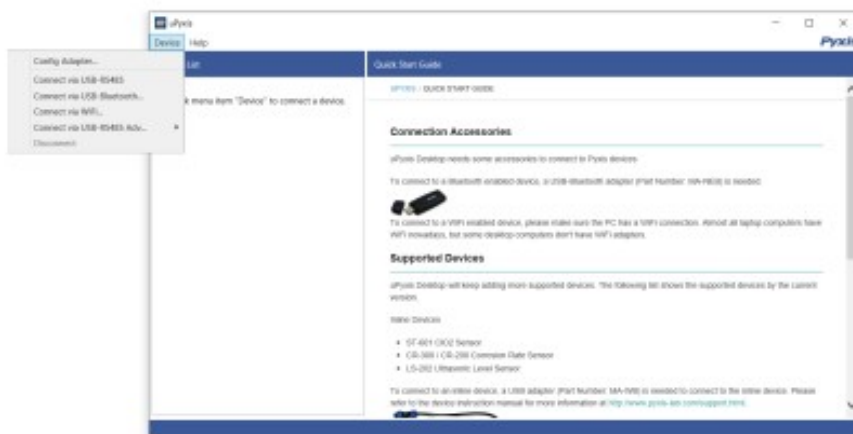

Figure 13.
3. On uPyxis® Desktop App, click Device Connect via USB-Bluetooth or Connect via USB-RS485 (Figure 13).